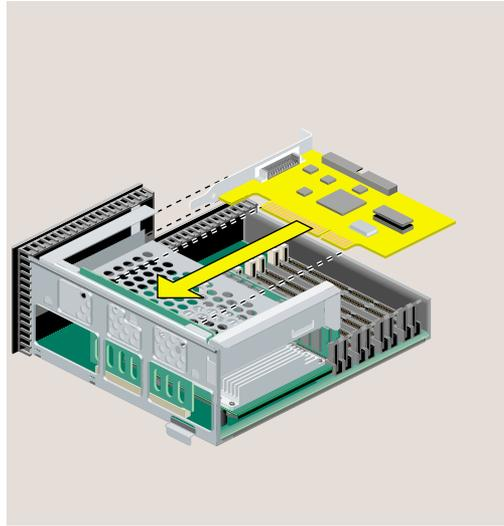

Figure 2-25 Installing the PCI Board on the R10000 Workstation
- Slide the PCI board into the tray and push the PCI connector firmly into the slot. Make sure it is completely seated (Figure 2-25). You may need to use some pressure to seat it all the way.